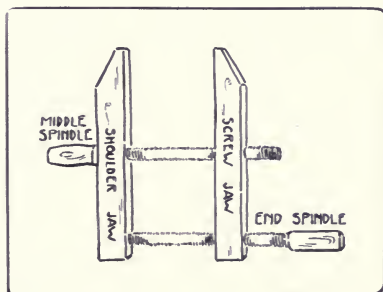

Fig. 173. Handscrew.
*Handscrews*, Fig. 173, consist of four parts, the shoulder jaw and